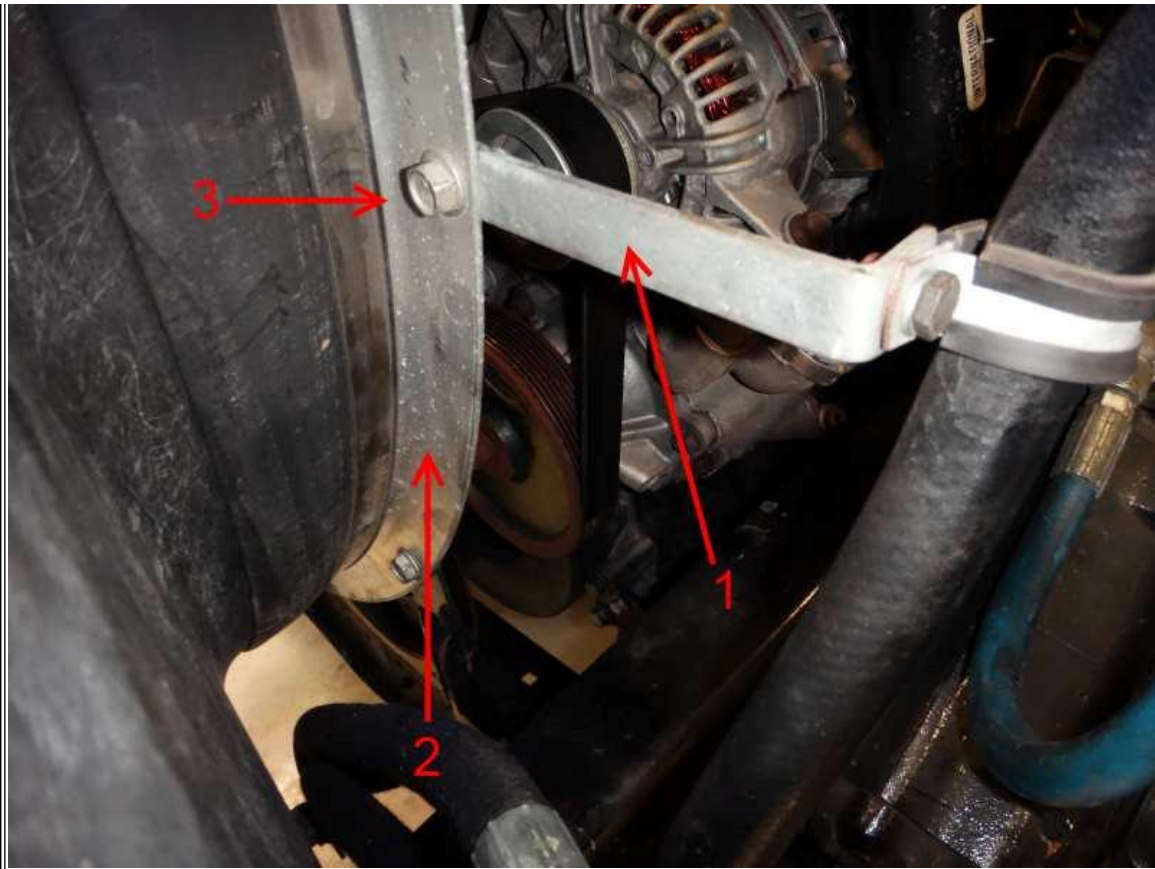

**Figure 5: Fan Ring Assembly**
13. Remove the two bolts from the fan ring bracket (**Figure 5**, Item 3).
14. Remove the 4 nuts and bolts securing the fan ring to the engine brackets (**Figure 5**, Items 4 & 5), and remove.